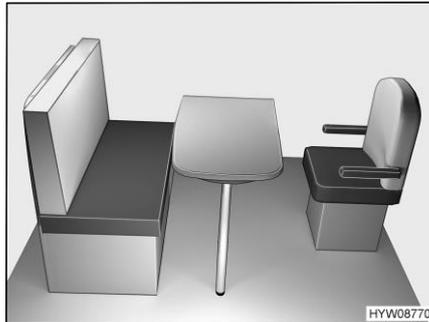

Fig. 65 Prior to conversion
- Turn driver's seat towards the table (Fig. 65).